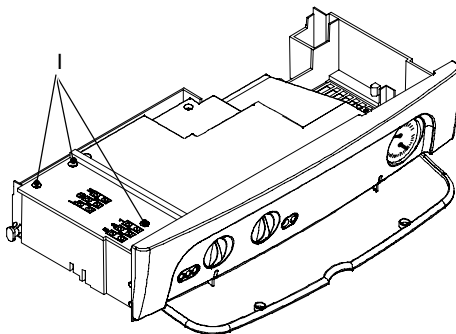

Fig. 6.16
- 5 Loosen the screws I and remove the service panel (Fig. 6.16).